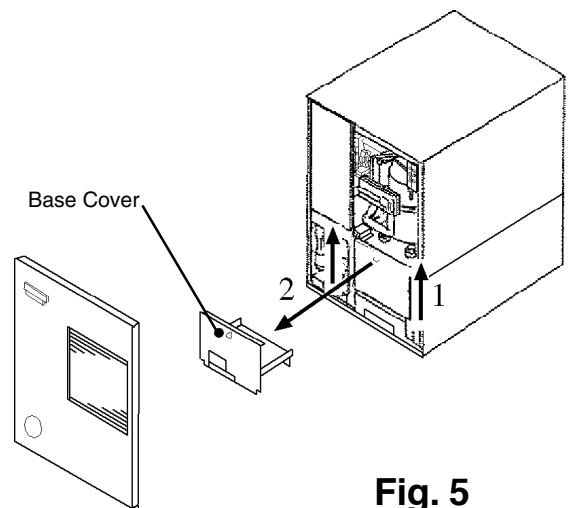

Fig. 5
- 3) Remove the Base Cover. See Fig. 5.